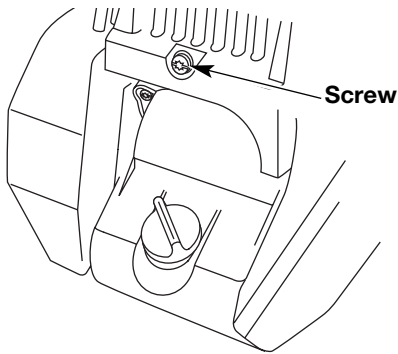

Figure 38
3. Remove the screw behind the engine cover. See Figure 38.